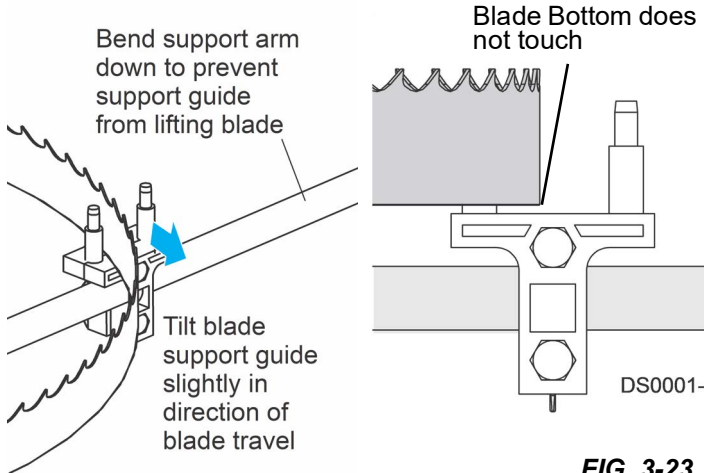

FIG. 3-23
**IMPORTANT!** Make sure the blade support does not lift the blade. The blade should sit flat on the blade height adjustment pins. Bend the support arm down slightly if necessary to prevent it from lifting the blade. The bottom of the blade should not touch the left or right blade support guides. See FIG. 3-23.